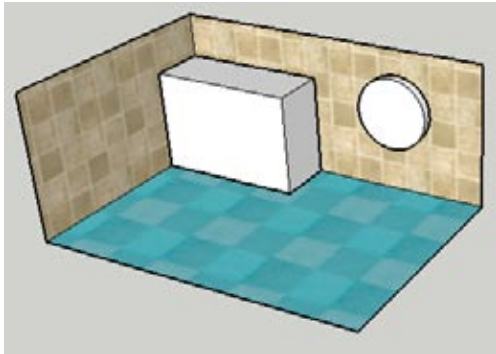

Figure 6-30
5. Pull the faces out. As shown in Figure 6-30, the new objects have the default color, and if you orbit to the back, you'll see that the backs of the walls and floor are not affected.